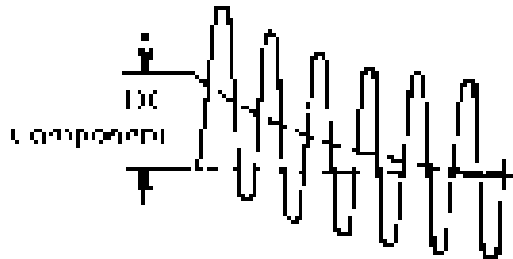

Figure 28
Asymmetrical, or offset, refers to a current that is not centered to a fixed reference axis as shown in **Figure 28**. Asymmetrical current is also known as the Direct Current (DC) component.